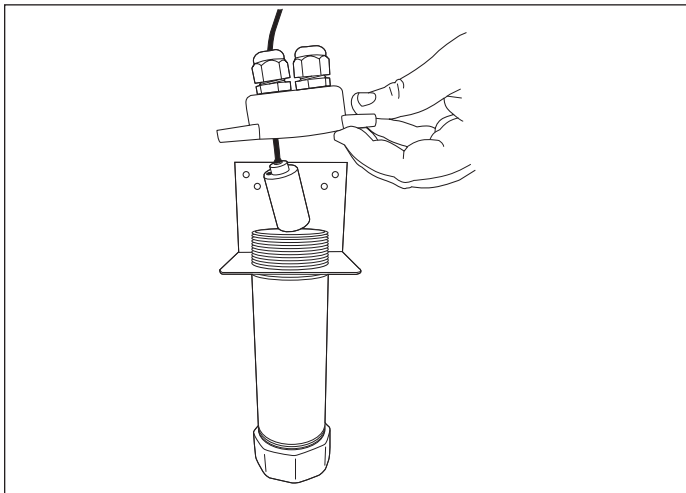

Figure 21-3
2. Feed Fuel Sensor wire through the bulkhead fitting located on the Fuel Sensor housing cap. Install sensor into the housing and ensure sensor is resting on the bottom of the housing (Figure 21-3).